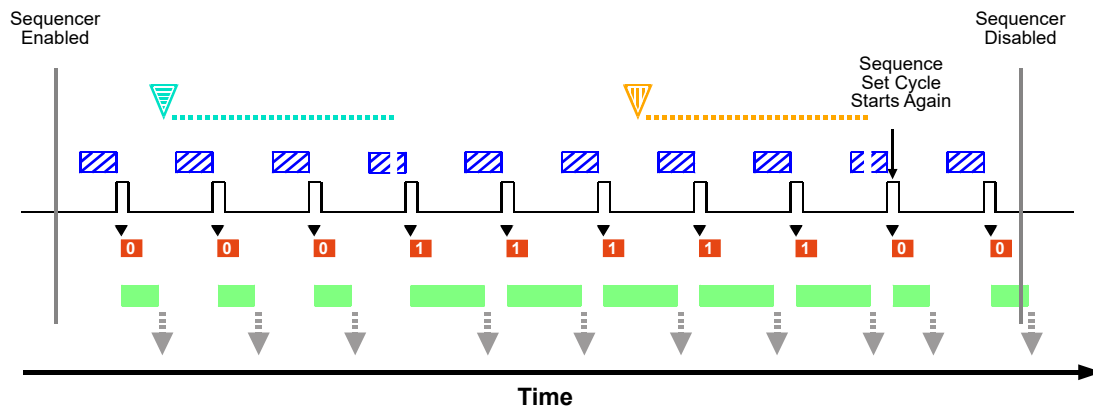

Fig. 51: Sequencer in Controlled Sequence Advance Mode with Disabled as the Sequence Control Source and Asynchronous Advance and Restart
The following use case (see also Figure 51) illustrates the operation of the sequencer in controlled sequence advance mode with Disabled selected as the sequence control source. Sequence set advance proceeds in ascending sequence set index numbers subject to asynchronous advance commands. After one sequence set cycle is complete, another one starts. Sequence set cycle restarts are subject to asynchronous restart commands.
- When the AsyncAdvance command becomes effective, the camera happens to be in "waiting for frame start trigger" status. The parameter values of the next sequence set, i.e. of sequence set 1, are loaded into the active set. Note that the camera briefly exits the "waiting for frame start trigger" status while the parameter values of sequence set 1 are loaded into the active set (see also Figure 51).
- When the AsyncRestart command becomes effective, the camera happens to be in "waiting for frame start trigger" status. The parameter values of sequence set 0 are loaded into the active set. Note that the camera briefly exits the "waiting for frame start trigger" status while the parameter values of sequence set 1 are loaded into the active set (see also Figure 51).